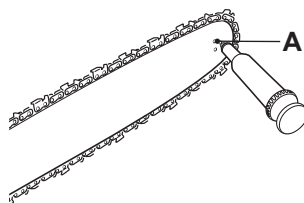

Fig. 49
- > Clean the sprocket nose (5).
- > Using a disposable lube gun, insert the nose of the needle into the lubrication hole (Fig. 49, A) and inject grease until it appears on the outside edge of the sprocket (5) (Fig. 49).